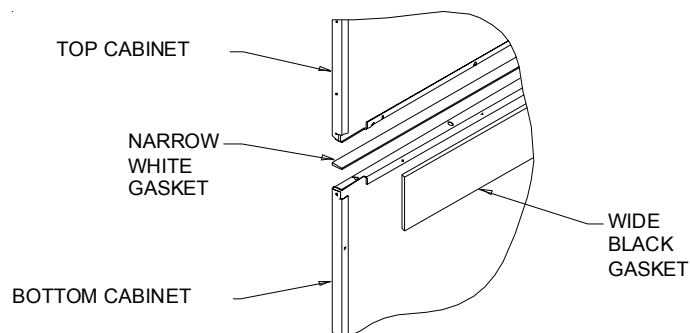
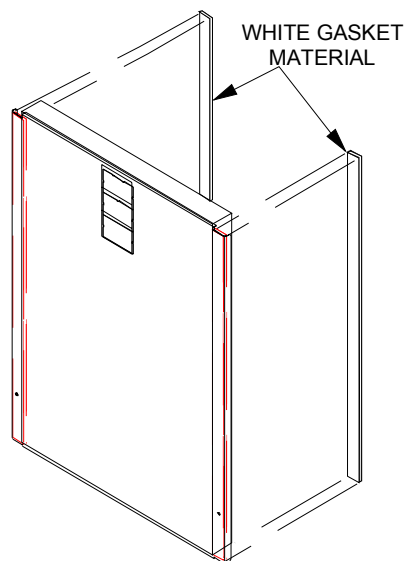

Figure 1
Figure 2
1. If installing the blower with a cased evaporator coil, remove the white gasket material from the blower bag assembly and place it between the top and bottom cabinet (Figure 1). **NOTE:** Do NOT discard remaining white gasket material as it will be used to provide a seal for the blower door (Figure 2).